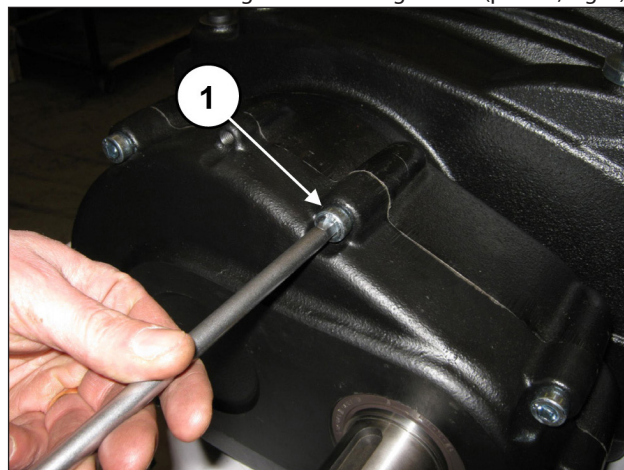

Fig. 4
Unscrew the reduction gear cover fixing screws (pos. ①, Fig. 4).